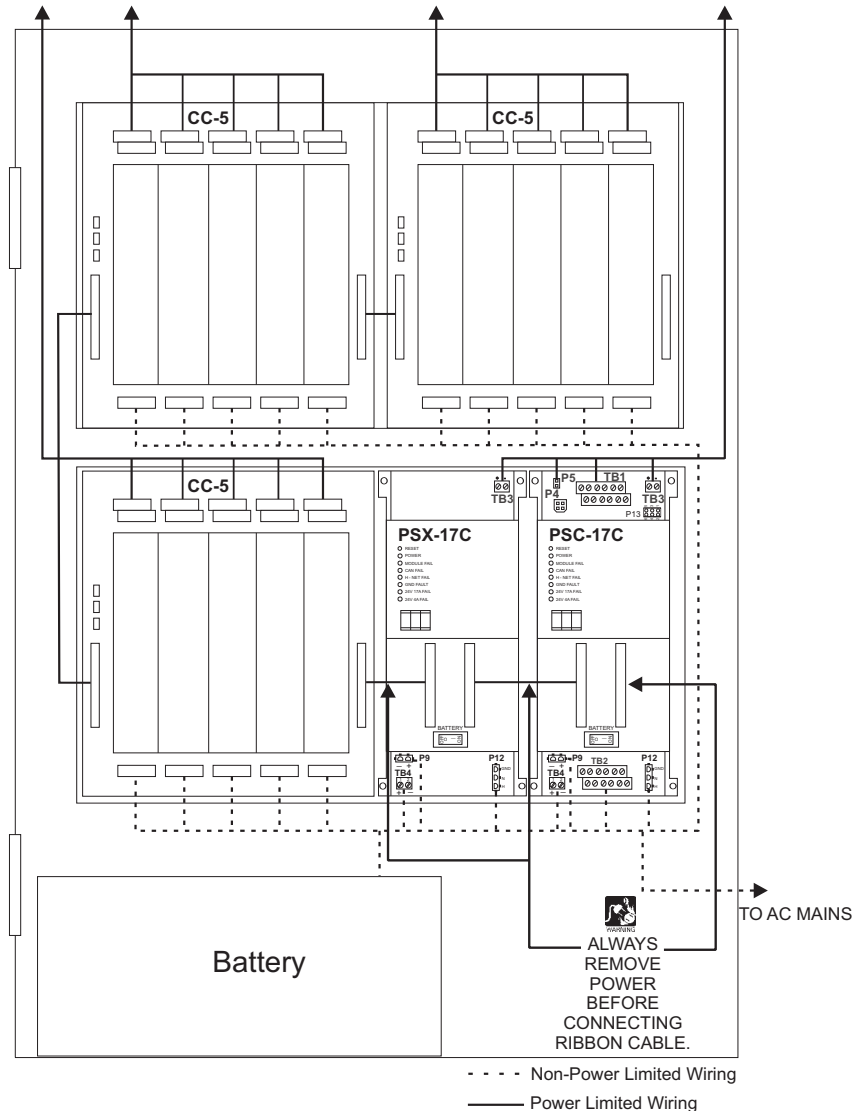
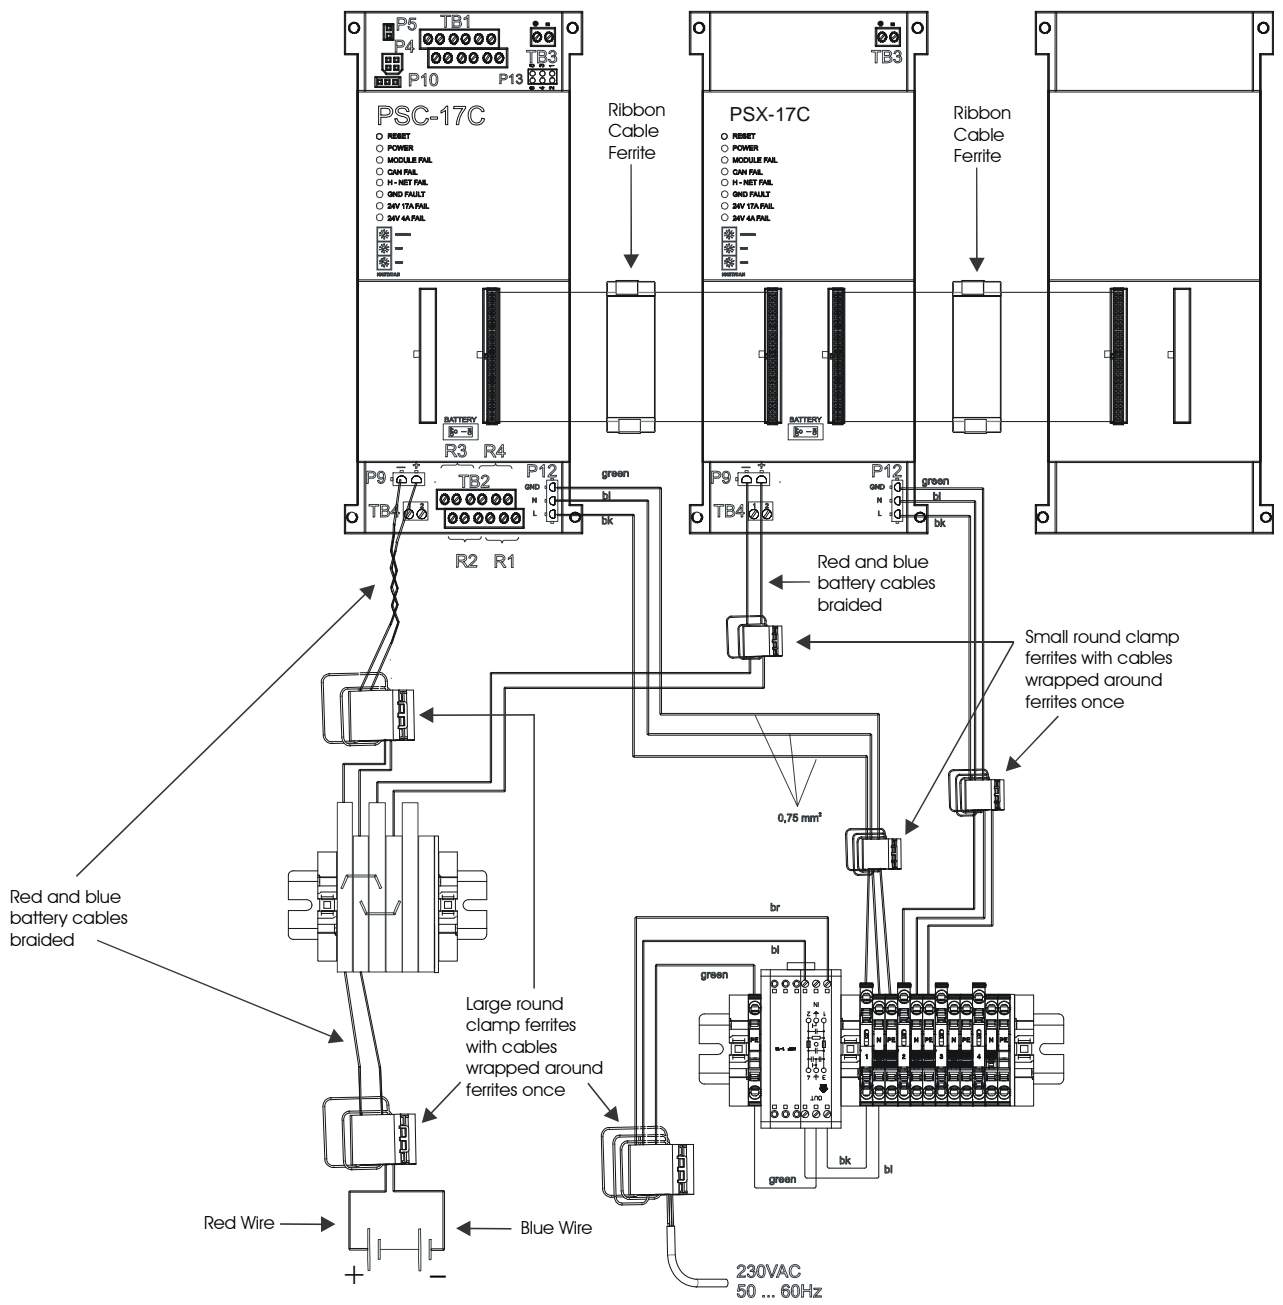

Figure 5
Figure 6
Use the ferrites provided on all cables as shown on Figures 6 and 7. All cables are to be wrapped around the ferrites once and the two battery wires are to be braided together. The PSX-17C has removable terminal blocks and connectors at the top and bottom of the module. The terminal block at the top of the PSX-17C is power limited. The terminals and connectors at the bottom of the PSX-17C are non-power limited (Refer to Figure 5).
**NOTE:** See Figure 6 for Ferrite location/wiring